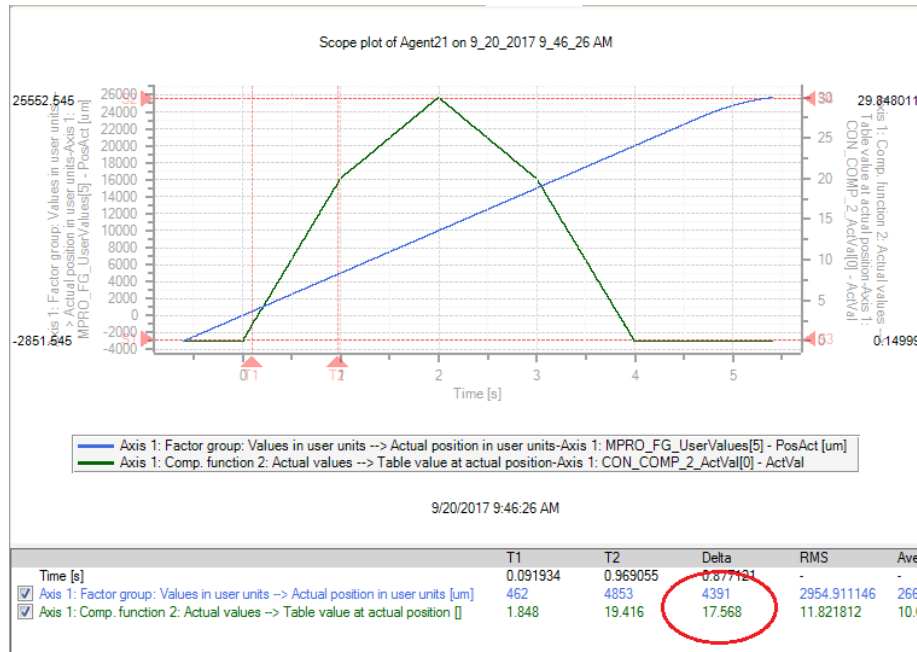

Fig. 8.42: Example scope view
- The position error compensation is intended for correcting small errors. It is only taken into account in the position control, but not in the feed forward control or speed control. The change in the compensation value must be significantly smaller in every section than the position difference (see Fig. 8.42: Example scope view, slope  $\ll 1$ ), otherwise there will be a deviation of the position.